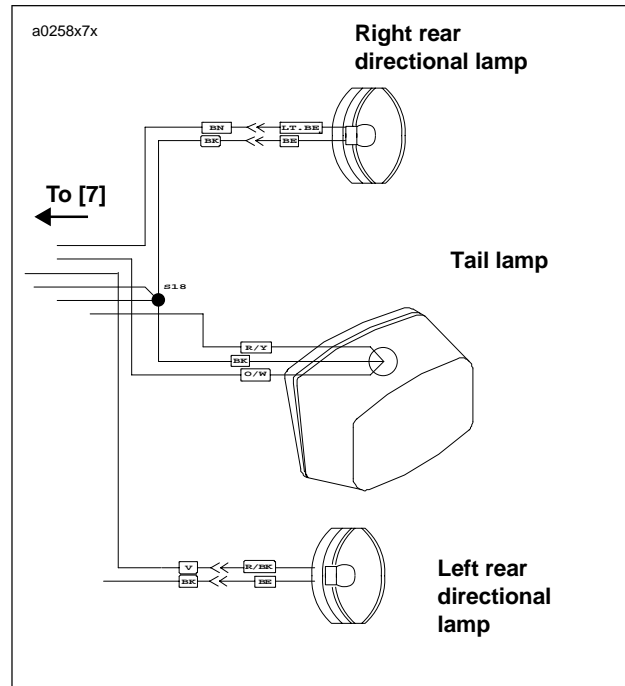

Figure 7-72. Rear Turn Signal Connections
2. See Figure 7-72. Disconnect two bullet connectors on turn signal wires.
2. Attach two bullet connectors on turn signal wires as shown in Figure 7-72.